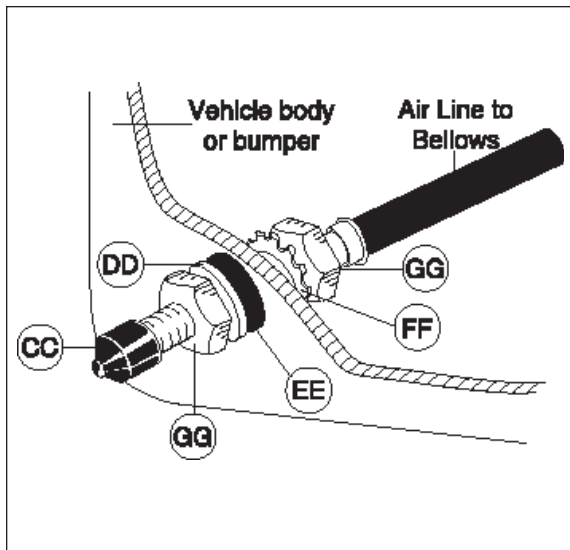

Figure 5
3. Cut the air line assembly (AA) in two equal lengths.
4. Place a  $\frac{5}{16}$ " nut (GG) and a star washer (FF) on the air valve. Leave enough of the inflation valve in front of the nut to extend through the hole and have room for the rubber washer (EE), flat washer (DD), and  $\frac{5}{16}$ " nut (GG) and cap (CC). There should be enough valve exposed after installation - approximately  $\frac{1}{2}$ " - to easily apply a pressure gauge or an air chuck (Figure 5).
5. Push the inflation valve through the hole and use the rubber washer (EE), flat washer (DD), and another  $\frac{5}{16}$ " nut (GG) to secure it in place. Tighten the nuts to secure the assembly in place (Figure 5).
6. Route the air line along the frame to the air fitting on the air spring. Keep at least 6" of clearance between the air line and heat sources, such as the exhaust pipes, muffler, or catalytic converter. Avoid sharp bends and edges. Use the plastic tie straps (BB) to secure the air line to fixed, non-moving points along the chassis. Be sure that the tie straps are tight, but do not pinch the air line. Leave at least 2" of slack to allow for any movement that might pull on the air line.